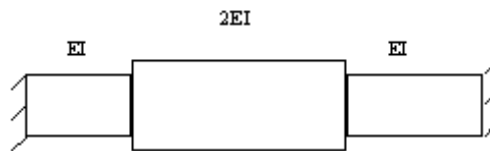

Figure 2:
3. Use the stiffness matrix to calculate the end moments and shear forces of a beam subjected to a load of  $5\text{KN/m}$ . The 3 sections are of same length of  $2\text{m}$  each. The total beam is subjected to a uniform load of  $5\text{KN/m}$ . as shown in figure 2 [16]